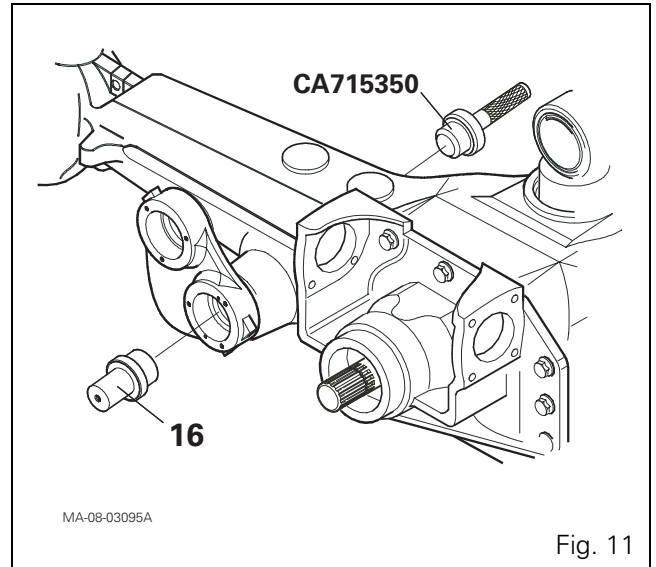

Fig. 11
- 11.** Install the lower arms on the axle beam and align the pins by inserting tool ref. CA715350 (see § C) into the housing at the side opposite the pin assembly (Fig. 11).
Insert arm pins (16) into the holes provided in the arms and axle beam, and push them into their holes using tool ref. CA715353 (see § C) (Fig. 11).